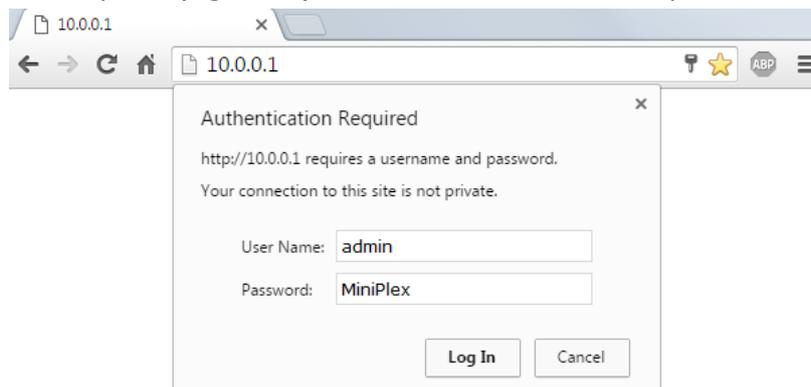

Figure 27
- Connect your computer or tablet to the MiniPlex WiFi Access Point (AP).
- An authentication is required (Figure 27), use username “admin” and password “MiniPlex”